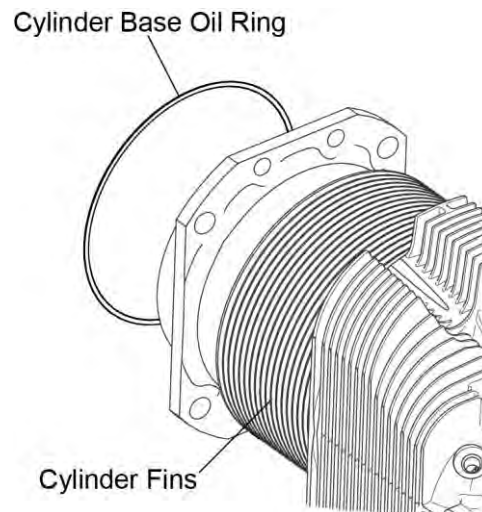

Figure 7
- Q. Remove the cylinder base oil ring from the cylinder (Figure 7) and keep it to use as support for the connecting rods after the pistons are removed.